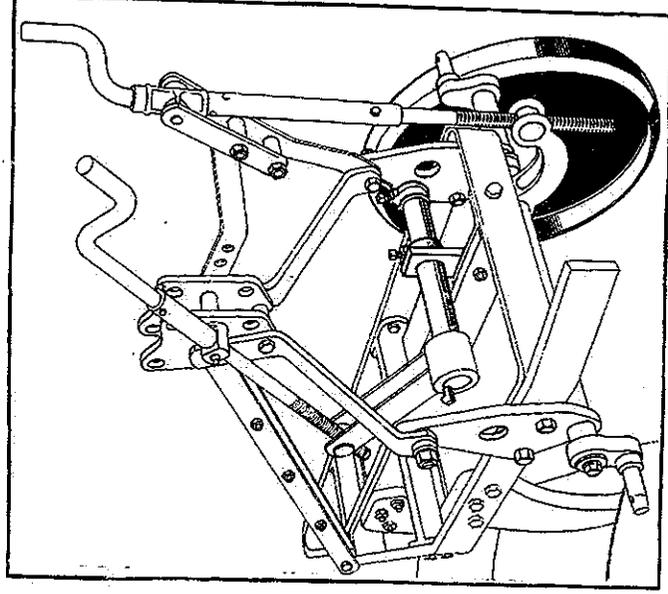

Fig. 3
This should be followed by fitting the wheel to the axle. (Fig. 3.)
**Setting the Cross-shaft.** (Fig. 3, 5, 6, 7, 8 & 9).